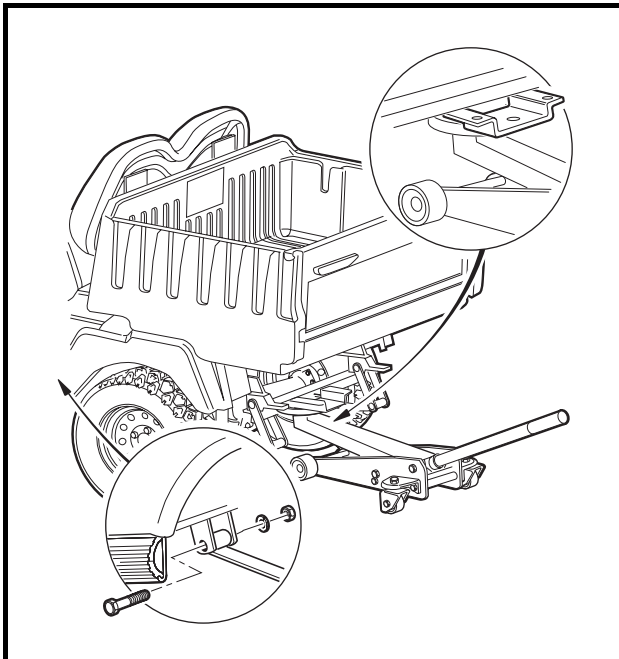

Figure 18-40 Leaf Springs
13. Position the floor jack under the rear frame crossmember and raise the jack high enough to support the vehicle (Figure 18-40, Page 18-15). Make sure the vehicle is stable on the jack, then remove the jack stands.